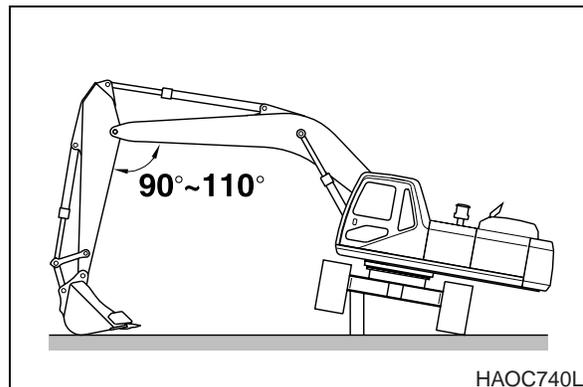

**Figure 37**
6. Install the collar (3, Figure 37), O-ring (2), and pin (1) on the remaining side.